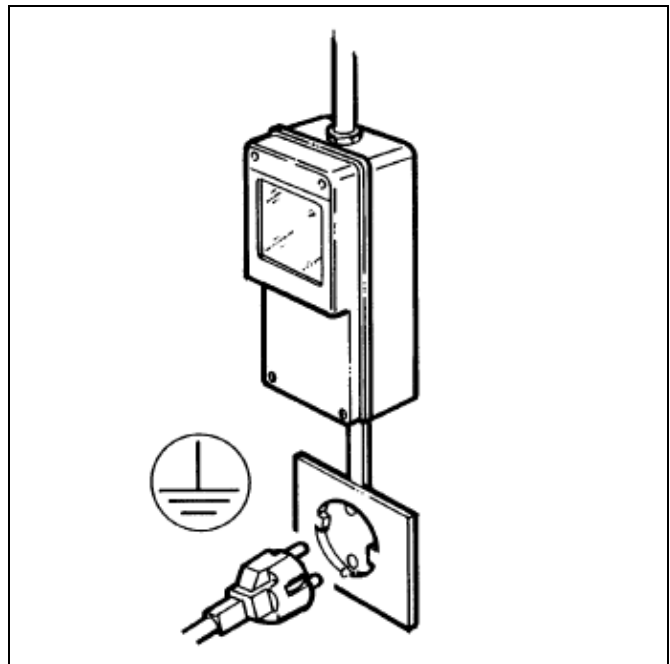

Fig. 3
- Make sure the connection is made to a system with an effective earth as required by current safety standards (fig. 3). The manufacturer cannot be held responsible for any damage caused by failure to earth the system.
- It is essential, for proper and safe installation, to provide a socket controlled by a circuit breaker with contact opening distance equal to or greater than 3 mm, in accordance with applicable national safety regulations (fig. 3).